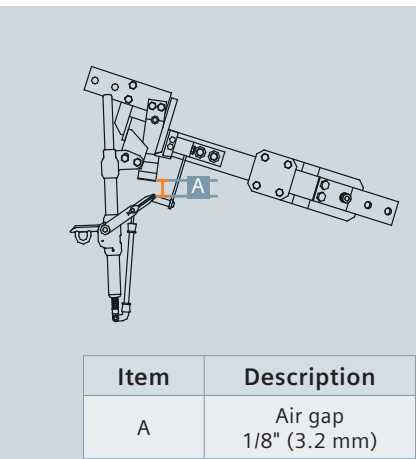

Figure 11: Air gap
- b) With the switch still fully closed and the interrupter cocked (set to trip), the lever should stick above the nylon bumper at least 1/8" (3.2 mm). There should be no metal-to-metal contact between the interrupter's lever and the contact casting. The lever should rest in the air gap as shown in Figure 11: Air gap. Raise the interrupter lever and verify the lever clears without touching any metal.